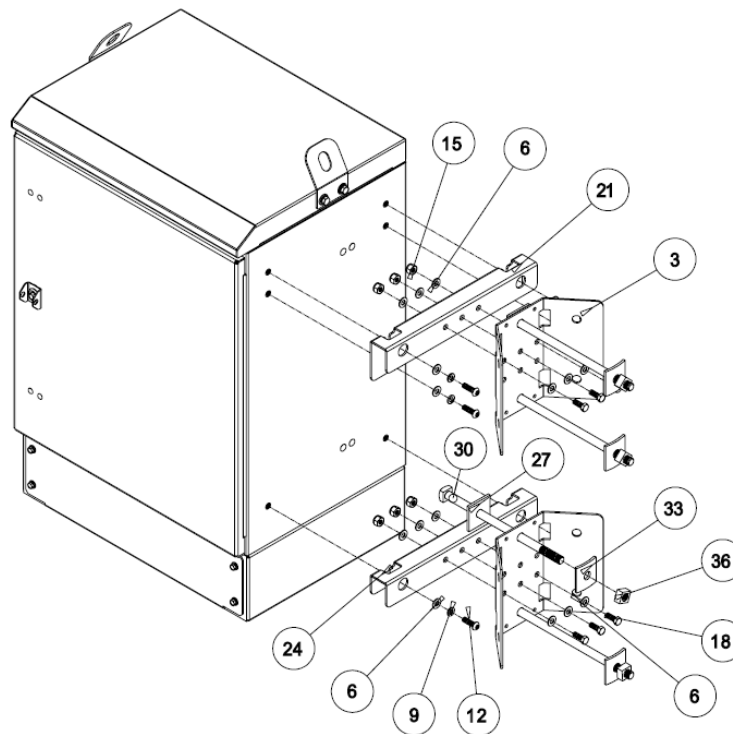
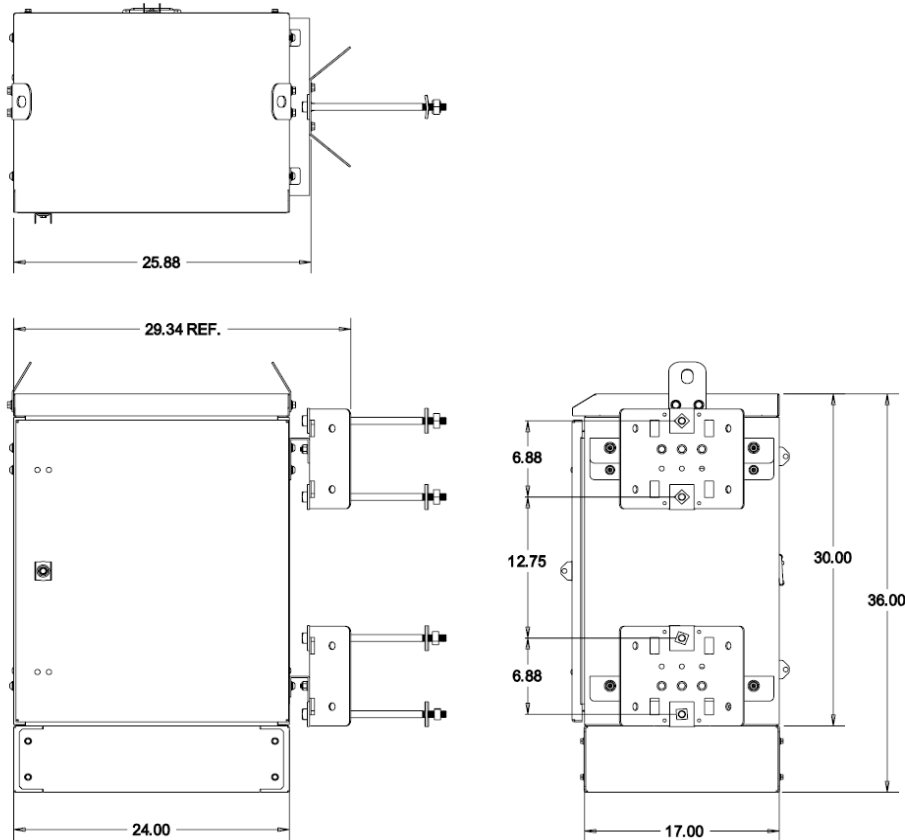

Figure 6: Pole Mounting Diagram
Figure 7: Dimensions for Pole Mounting
Use this procedure to mount the cabinet on an 8 to 14 inch diameter wooden pole. See figures 6 and 7 on previous pages for details.
3. Use the pole mounting template as an aid. Drill four (4) $\frac{3}{4}$ " diameter holes in the pole per the dimensions in Figure 7 for four (4) $\frac{5}{8}$ " bolts (item 30 in Figure 6).
4. Insert machine bolt (item 30) through mounting bracket and into the mounting hole and press bolt and bracket flush against the pole.
5. Place round-cupped washer (item 33), with the concave side in, on bolt, and finger tighten nut.
9. Engage four (4) $\frac{3}{8}$ " cap screws (item 12), which slide into the keyed slots provided in the horizontal brackets, into the cabinet as shown in the diagram.
11. Once cabinet is securely in place, install the remaining 3/8" cap screws (item 12) on the upper pole mount bracket.